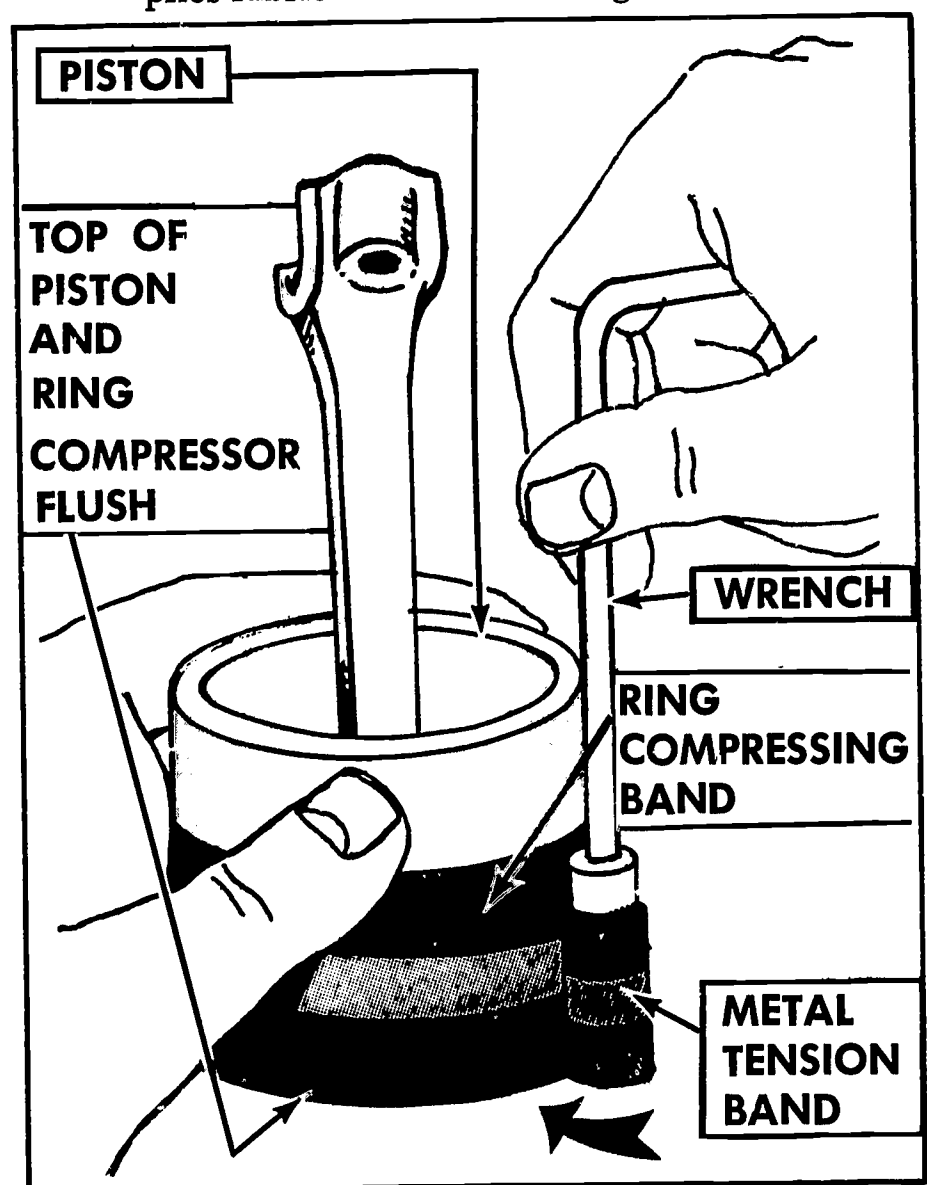

FIGURE 263. Attaching a piston-ring compressor.
2. *Install ring compressor on rings (Figure 263).*